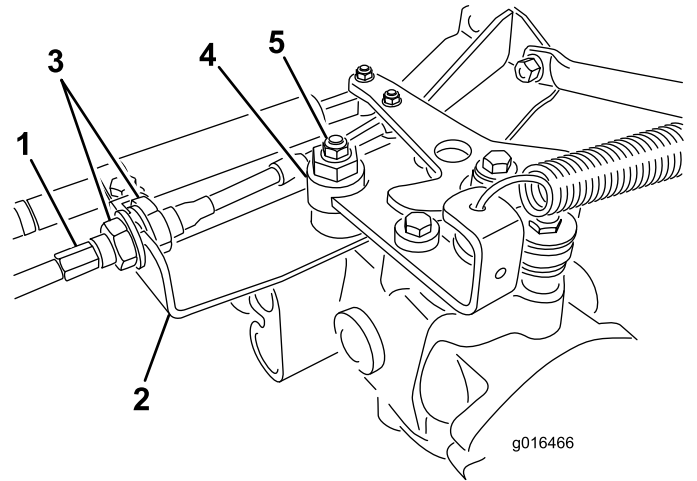

Figure 39
- A. Loosen both jam nuts securing the traction-control cable to the bulkhead on the hydrostat (Figure 39). Ensure that the jam nuts are loosened equally and sufficiently to allow adjustment.
Note: Loosen the nut securing the eccentric to the top of the hydrostat (Figure 39).
- E. When the wheel stops rotating, tighten the nut locking the eccentric and the adjustment (Figure 39).
- G. From each side of the bulkhead, tighten the locknuts evenly, securing the traction cable to the bulkhead (Figure 39). Do not twist the cable.